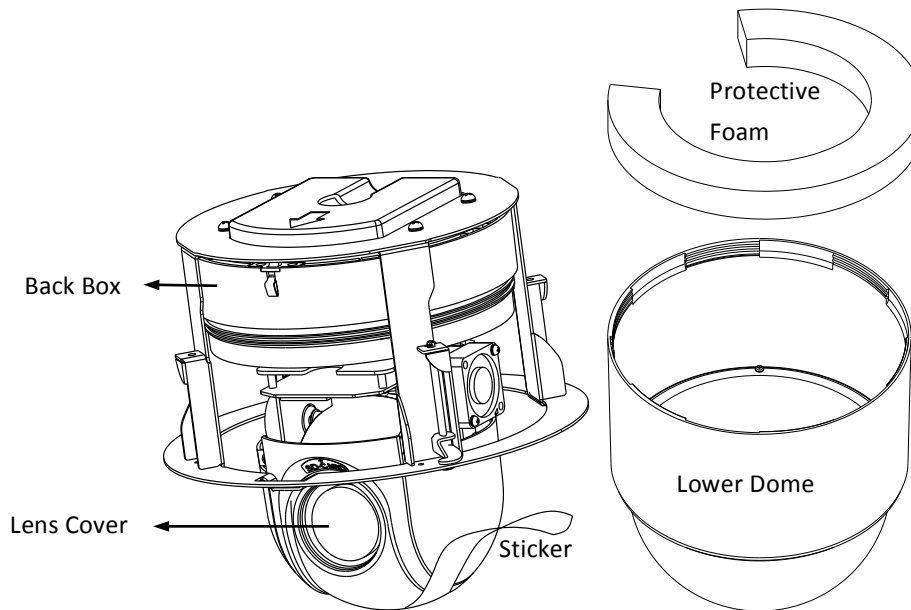

Figure 2-17 Remove the Protective Accessory
- 1) Rotate the lower dome counterclockwise to separate it from the back box as shown in Figure 2-17.
- 1) Rotate the lower dome counterclockwise to separate it from the back box. Refer to the Figure 2-17.